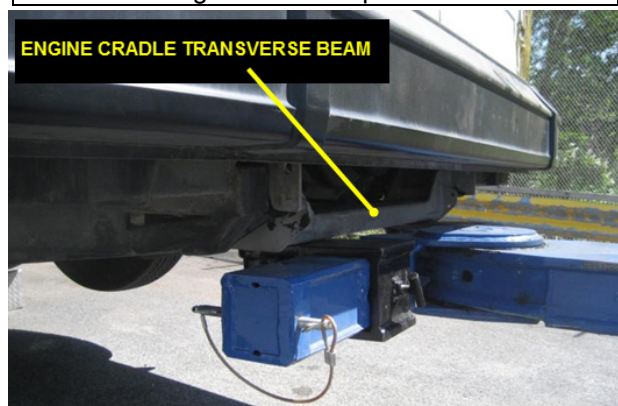

FIGURE 56
5. Deploy the tow truck stinger arm. Place the fork holders under the engine cradle transverse beam as shown on Figure 56. Lift the tow bar until the fork holders come into contact with the cradle transverse beam.